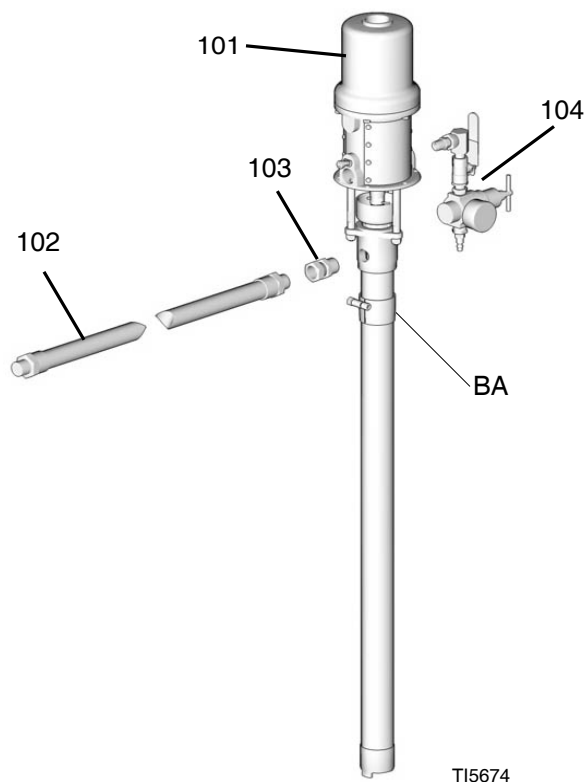

FIG. 2 Feed Pump
1. See FIG. 2. Install feed pump (101) in drum and secure with bung adapter (BA).
2. Install air control kit (104).
3. Screw swivel union (103) into pump fluid outlet. Connect hose (102) to swivel. Connect other end of hose to proportioner.